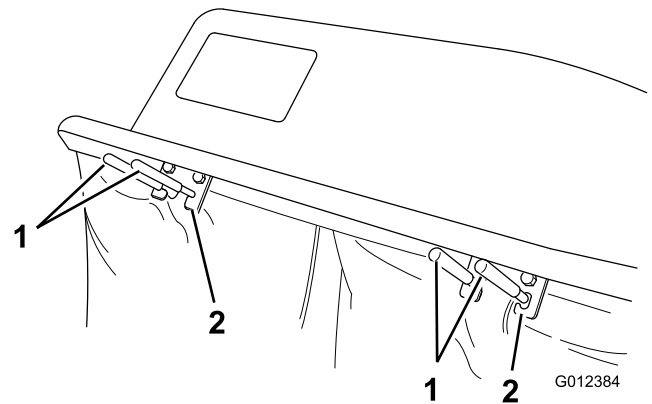

Figure 10
2. Lift the rear of the bag up to the grass catcher cover. Squeeze the bag handles and allow them to snap into the bag frame brackets (Figure 10).
8. Lift the rear of the bag up to the grass catcher cover. Squeeze the bag handles and allow them to snap into the bag frame brackets (Figure 10).